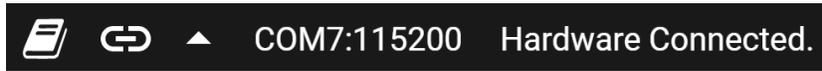

Figure 4-6. Hardware Connected
2. Check to make sure that the EVM connected to the GUI, then close the README.md file page to initiate the connection. If successful, the **Hardware Connected** message should be visible near the bottom-left corner of the GUI as in Figure 4-6.